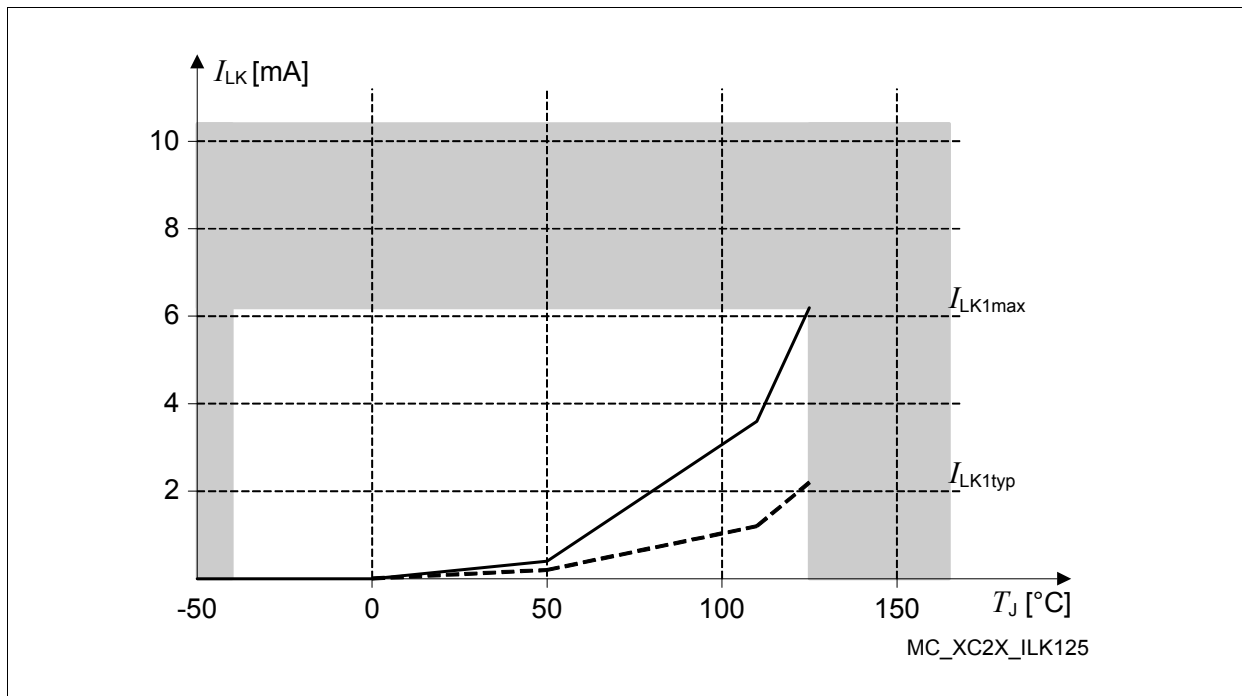

Figure 14 Leakage Supply Current as a Function of Temperature
- 2) The supply current caused by leakage depends mainly on the junction temperature (see Figure 14) and the supply voltage. The temperature difference between the junction temperature T_J and the ambient temperature T_A must be taken into account. As this fraction of the supply current does not depend on device activity, it must be added to other power consumption values.